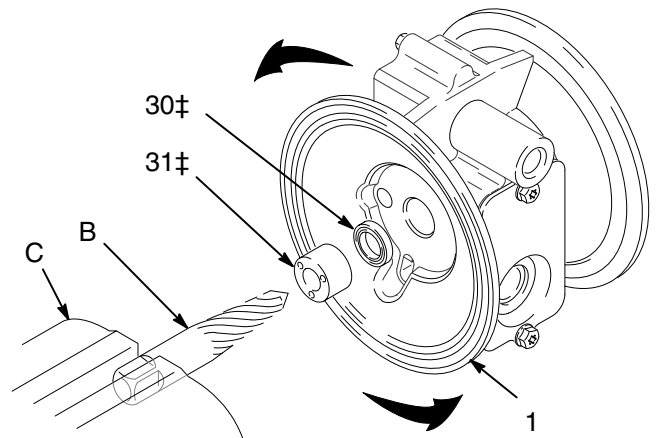

Fig. 17
6. Inspect the shaft (29) for wear or scratches. If it is damaged, check the shaft bearings (31‡) in place. Replace parts as needed. To remove the bearings, place a 13/32 EZY-OUT (B) in a vise (C). Position the pump housing (1) over the EZY-OUT (see Fig. 17). Turn the housing in the direction shown by the arrows to remove the bearing.
7. Hook the shaft seals (30‡) with an o-ring pick and pull them out of the housing (1).